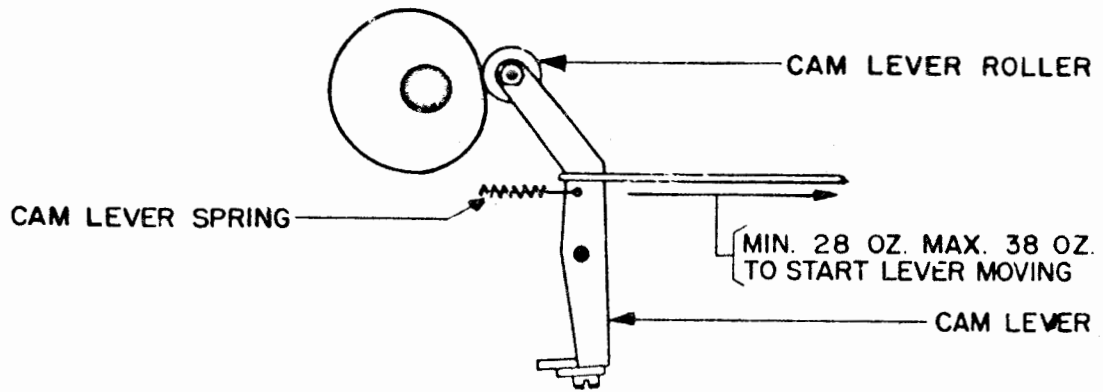

Figure 8
2.14 Cam-lever Spring: It should require minimum 28 ounces, maximum 38 ounces to move the cam lever. (See Figure 8.)